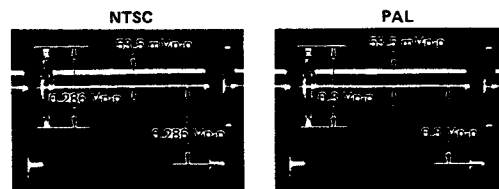

Fig. 3-2
- (1) Adjust R11 (BF LEVEL) for burst level. (Fig. 3-2)
- (2) Adjust R94 (SYNC LEVEL) for sync level. (Fig. 3-2)
- (3) Adjust R100 (SET-UP) for set-up level. (Fig. 3-2)